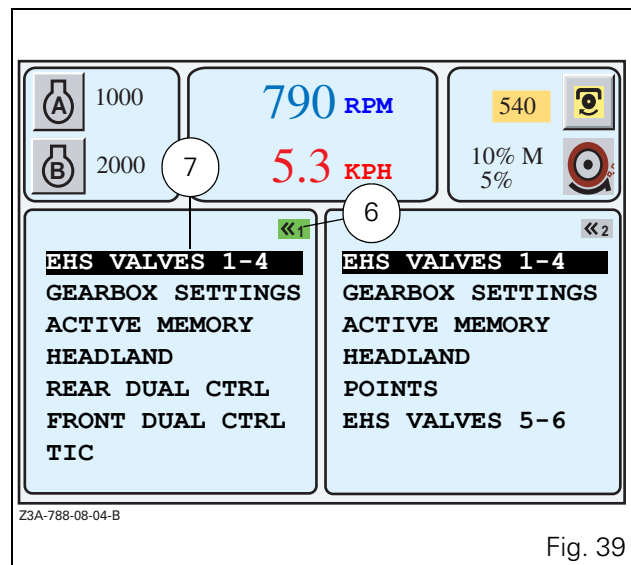

Fig. 39
- To display this menu, press key «1 twice. The first press selects the window and the second press displays the list if no application was activated previously. On colour screens, the active window is indicated by the green icon at the top right-hand of the window (6 Fig. 39), and on b/w screens the active window is indicated by the same icon in reverse video.
- To select the EHS VALVES 1-4 menu, select the application with the encoder. The selected application is displayed in a black frame (7 Fig. 39).